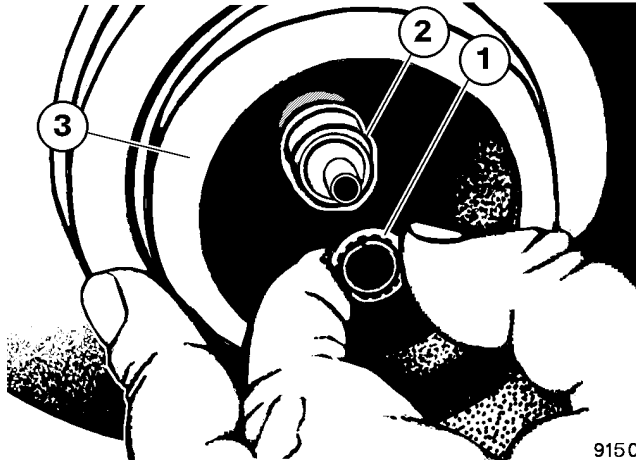

FIGURE 50-10. DYNA-SEAL REMOVAL & INSTALLATION
- Remove the valve guard and Dyna-seal (1, Figure 50-10) from the top of each brake accumulator. Depress the valve core to release any gas precharge pressure from the bladder.